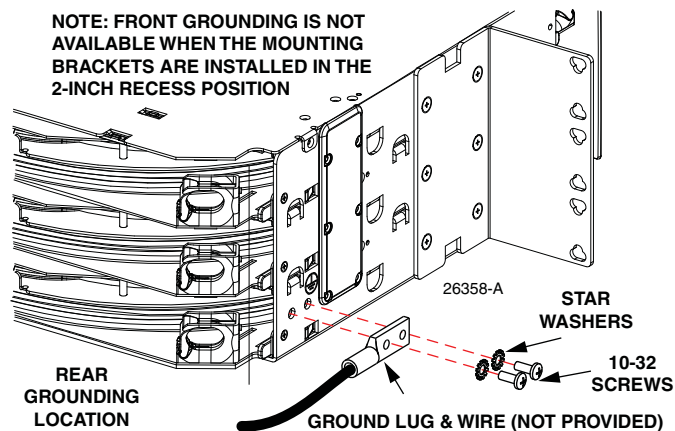

Figure 38. Grounding the Rapid Fiber Panel Chassis
7. Connect a grounding wire to the panel shell as shown in Figure 38 using the two screws and star washers provided. (Two locations are available; see Figure 13 on Page 16.) A two-hole grounding lug (shown here for reference) is recommended for the connection.